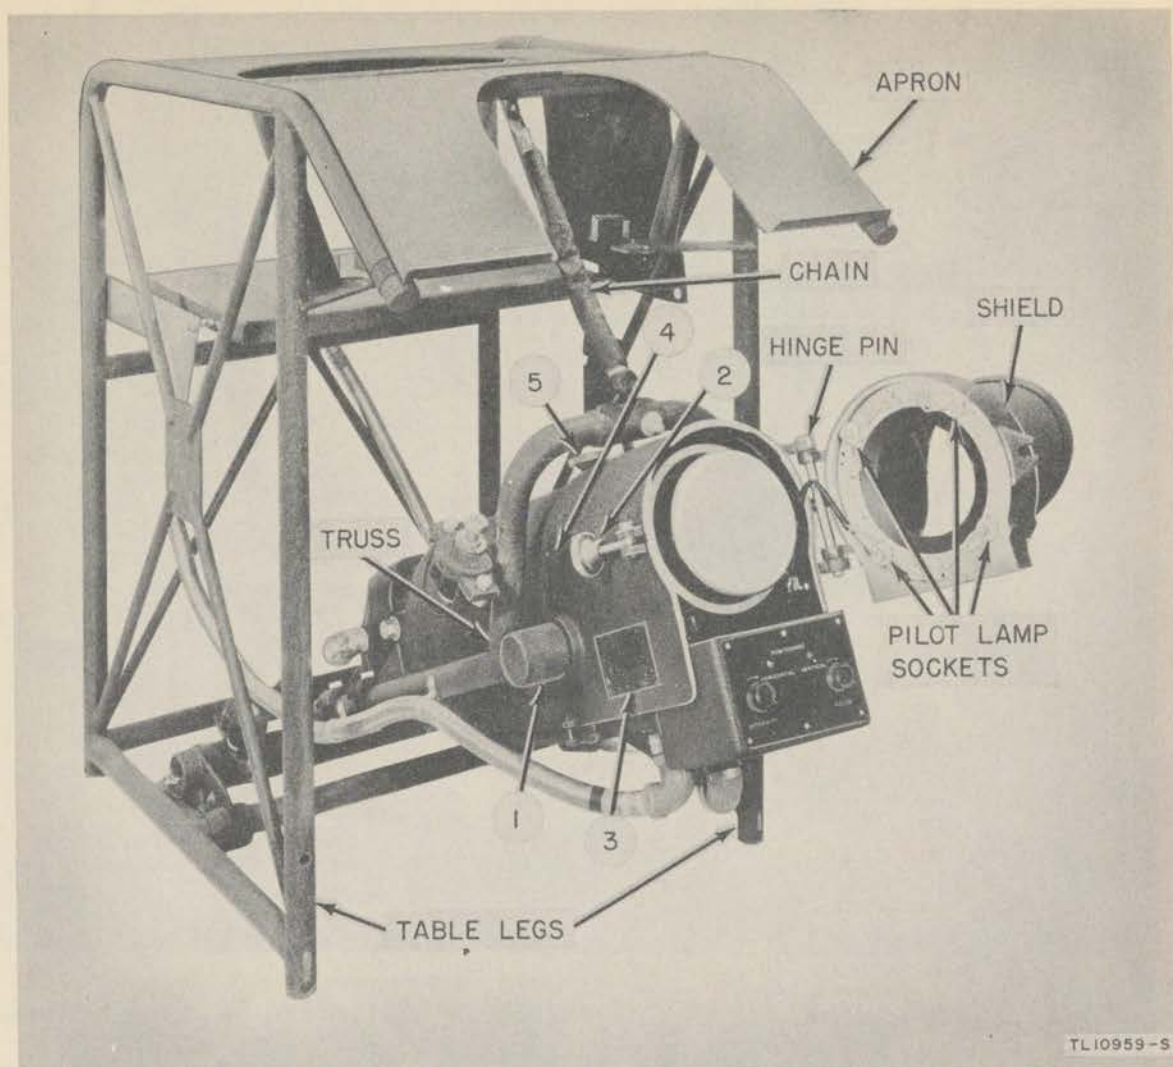

Figure 37. Bearing indicator and mounting table showing bearing indicator dropped on its chain.
(1) Locate Chest CY-318/CRD-3. Unpack Mounting Table MT-347/CRD-3 with assembled Bearing Indicator ID-121/CRD-3 and goniometer. Remove the two pins on the lower bearing indicator support at the base of the mounting table. Lift the hinged metal flap on the front of the mounting table and brace the back with the rod at the left of the hinge. Remove the two nuts on the shockmount support and drop the bearing indicator on its chain (fig. 37).
(2) Remove Amplifier-Rectifier Power Unit PP-151/CRD-3 from Chest